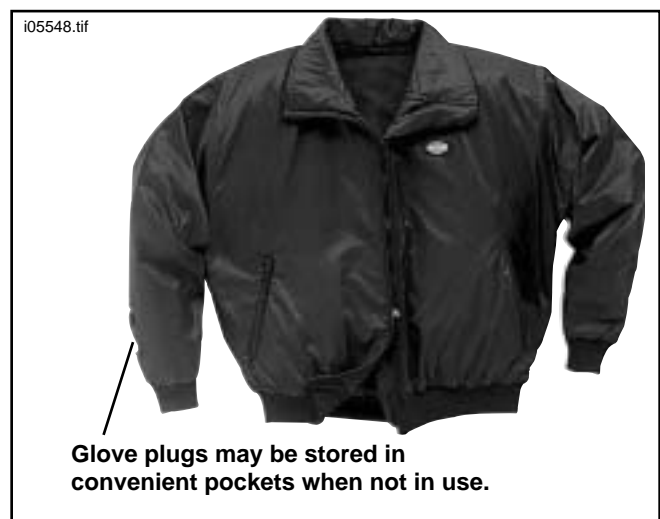

Figure 7. Harley-Davidson Heated Jacket Liner
- **Harley-Davidson Heated Jacket Liner:** See Figure 7. The long, white plug terminal at the waist is the garment's power wire. Plug the power wire directly into the white socket terminal on the power switch or thermostat.